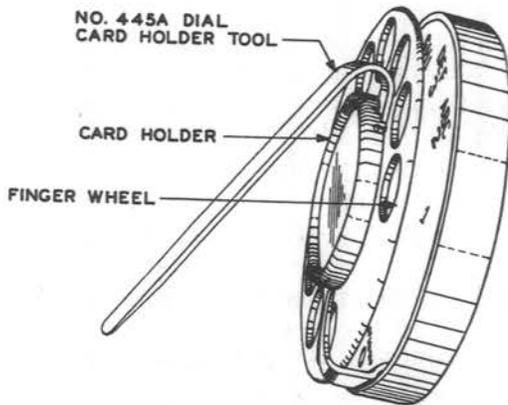

Fig. 15 — Method of Removing Dial Card Holder
(2) Remove the card holder by inserting the point of the No. 445A dial card holder tool into either of the two slots of the card holder adjacent to the 2 hole of the fingerwheel, forcing the other end of the tool away from the fingerwheel, as shown in Fig. 15.
(3) Remove the fingerwheel clamping nut with the No. 311 wrench and remove the lockwasher, if provided; then remove the fingerwheel. A C screwdriver or the equivalent may be inserted into the slot of the No. 311 wrench to assist in turning the nut.
(6) Remove the card holder by inserting the point of the No. 445A dial card holder tool into either of the two slots of the card holder adjacent to the 2 hole of the fingerwheel, forcing the other end of the tool away from the fingerwheel, as shown in Fig. 15.
(7) Remove the fingerwheel clamping nut with the No. 311 wrench and remove the lockwasher, if provided; then remove the fingerwheel. A C screwdriver or the equivalent may be inserted into the slot of the No. 311 wrench to assist in turning the nut.